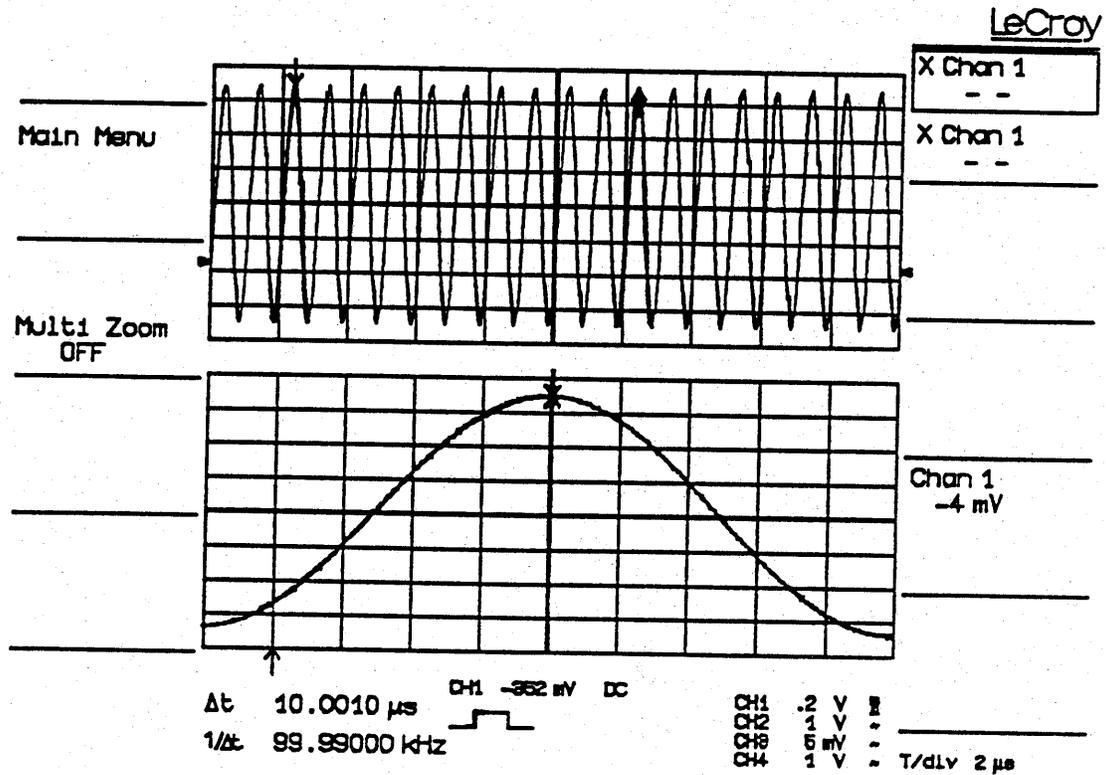

Figure 10: Aligned cursors
- Put the DIFFERENCE cursor on top of the 13th period (check on upper grid) and adjust alignment of the two cursors (check on lower grid), see Figure 10.